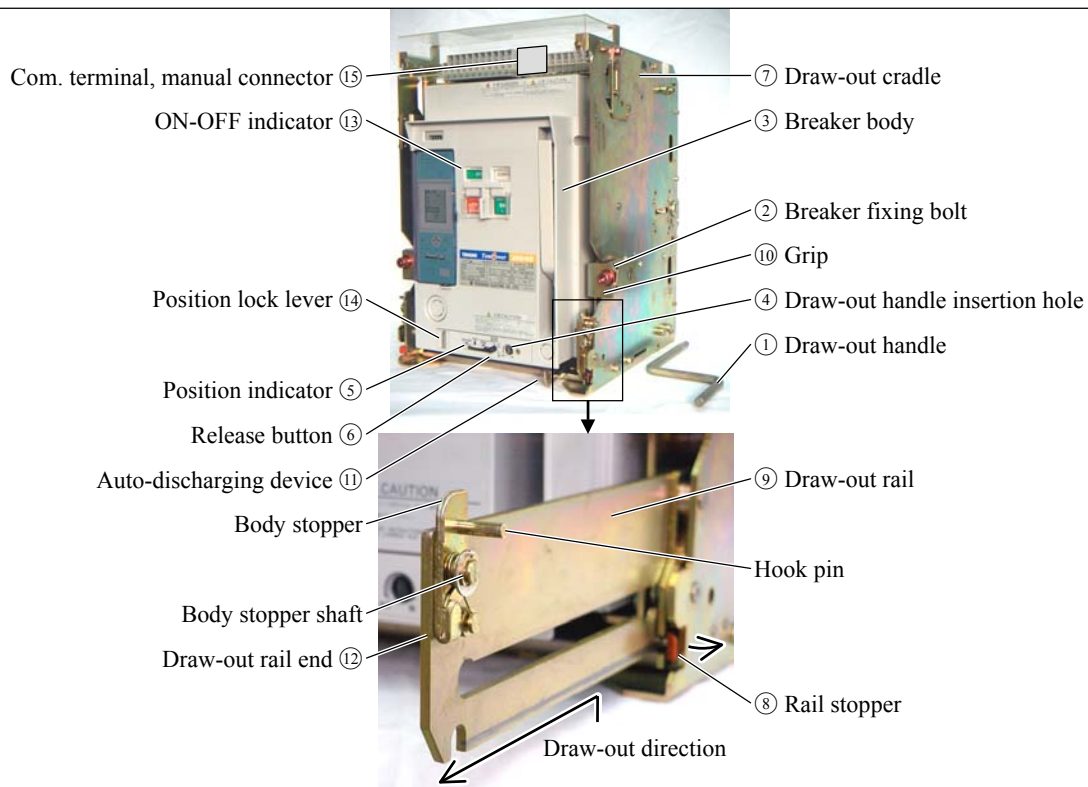

Fig. 29 Draw-out and insertion operation
- 1) Open the ACB. (If the ACB remains closed, the draw-out handle (Fig. 29 ①) cannot be inserted).
- 2) Loosen the breaker fixing bolts (Fig. 29 ②), if used, to unlock the breaker body (Fig. 29 ③).
- 3) Unlock the position lock lever (Fig. 29 ⑭) if locked. See section 4-5.
- 4) Insert the draw-out handle into the draw-out handle insertion hole (Fig. 29 ④). And slowly turn counterclockwise until the handle cannot be turned. The position indicator (Fig. 29 ⑤) shows “TEST”.
- 2) Press the release button (Fig. 29 ⑥). The release button will be locked depressed.
- 4) Insert the draw-out handle into the draw-out handle insertion hole (Fig. 29 ④). And slowly turn counterclockwise until a freewheeling sound is heard. The position indicator (Fig. 29 ⑤) shows “ISOLATED”. Turning the draw-out handle will unlock the release button.
- 1) Make sure the draw-out cradle (Fig. 29 ⑦) is secured with mounting screws.
- 2) Unlock the position lock lever (Fig. 29 ⑭) if locked. See section 4-5.
- 3) Push the rail stoppers (Fig. 29 ⑧) outward on both sides of the draw-out cradle to unlock the draw-out rail (Fig. 29 ⑨), and then uphold and pull out the rail until it stops. The draw-out rail will be locked again by the stoppers. (The breaker body cannot be drawn out unless the rail is locked).
- 4) Holding both the grips (Fig. 29 ⑩), draw out the breaker body until it stops.
- If the ACB is equipped with the communication terminal block, pull out the hand connector (Fig. 29 ⑮) from the communication terminal block while drawing out the breaker body. Make sure the hand connector and control wire of the ACB are not snagged when drawing out the breaker body again.
- If the ACB is equipped with an optional auto-discharging device (Fig. 29 ⑪), the closing springs of the ACB will be automatically discharged with a mechanical sound. This sound does not mean a malfunction.
- 5) Use an optional lifter or lifting plate to transfer the breaker body (Fig. 29 ③) to a safe place. Refer to section 2-1-2.
- 2) Push the rail stoppers (Fig. 29 ⑧) outward on both sides of the draw-out cradle to unlock the draw-out rail (Fig. 29 ⑨), and then uphold and pull out the rail until it stops. The draw-out rail will be locked again by the stoppers. (The breaker body (Fig. 29 ③) cannot be inserted unless the rail is locked).
- 4) Make sure the breaker fixing bolts (Fig. 29 ②), if fitted, are loosened and not arrest the breaker body.
- 5) Make sure the hand connector (Fig. 29 ⑮) of the communication terminal block, if fitted, is so positioned that it does not get caught between the breaker body and the draw-out cradle.
- 6) If the ACB has the breaker fixing bolts (Fig. 29 ②), make sure the bolts are loosened and, holding both the grips (Fig. 29 ⑩), firmly push the breaker body into the draw-out cradle.
- If the ACB is equipped with the communication terminal block, plug the hand connector (Fig. 29 ⑮) into the communication terminal block while pushing the breaker body into the draw-out cradle. Make sure the hand connector and control wire of the ACB are not snagged when pushing the breaker body into the draw-out cradle.
- 7) Push the rail stoppers (Fig. 29 ⑧) outward on both sides of the draw-out cradle (Fig. 29 ⑫) to unlock the draw-out rail, and then push the rail ends to insert the rail until it stops. The draw-out rail will be locked again by the stoppers.
- 1) Make sure the ON-OFF indicator (Fig. 29 ⑬) shows “OFF”. (If the ACB remains closed, the draw-out handle (Fig. 29 ①) cannot be inserted).
- 3) Insert the draw-out handle into the draw-out handle insertion hole (Fig. 29 ④). And slowly turn clockwise until the handle cannot be turned. The position indicator (Fig. 29 ⑤) shows “TEST”.
- 3) Press the release button (Fig. 29 ⑥). The release button will be locked depressed.
- 4) Insert the draw-out handle into the draw-out handle insertion hole (Fig. 29 ④). And turn clockwise until the handle cannot be turned with its max. operating torque (14.7 N-m). The position indicator (Fig. 29 ⑤) shows “CONN.”
- 6) Tighten the breaker fixing bolts (Fig. 29 ②), if used, to lock the breaker body.